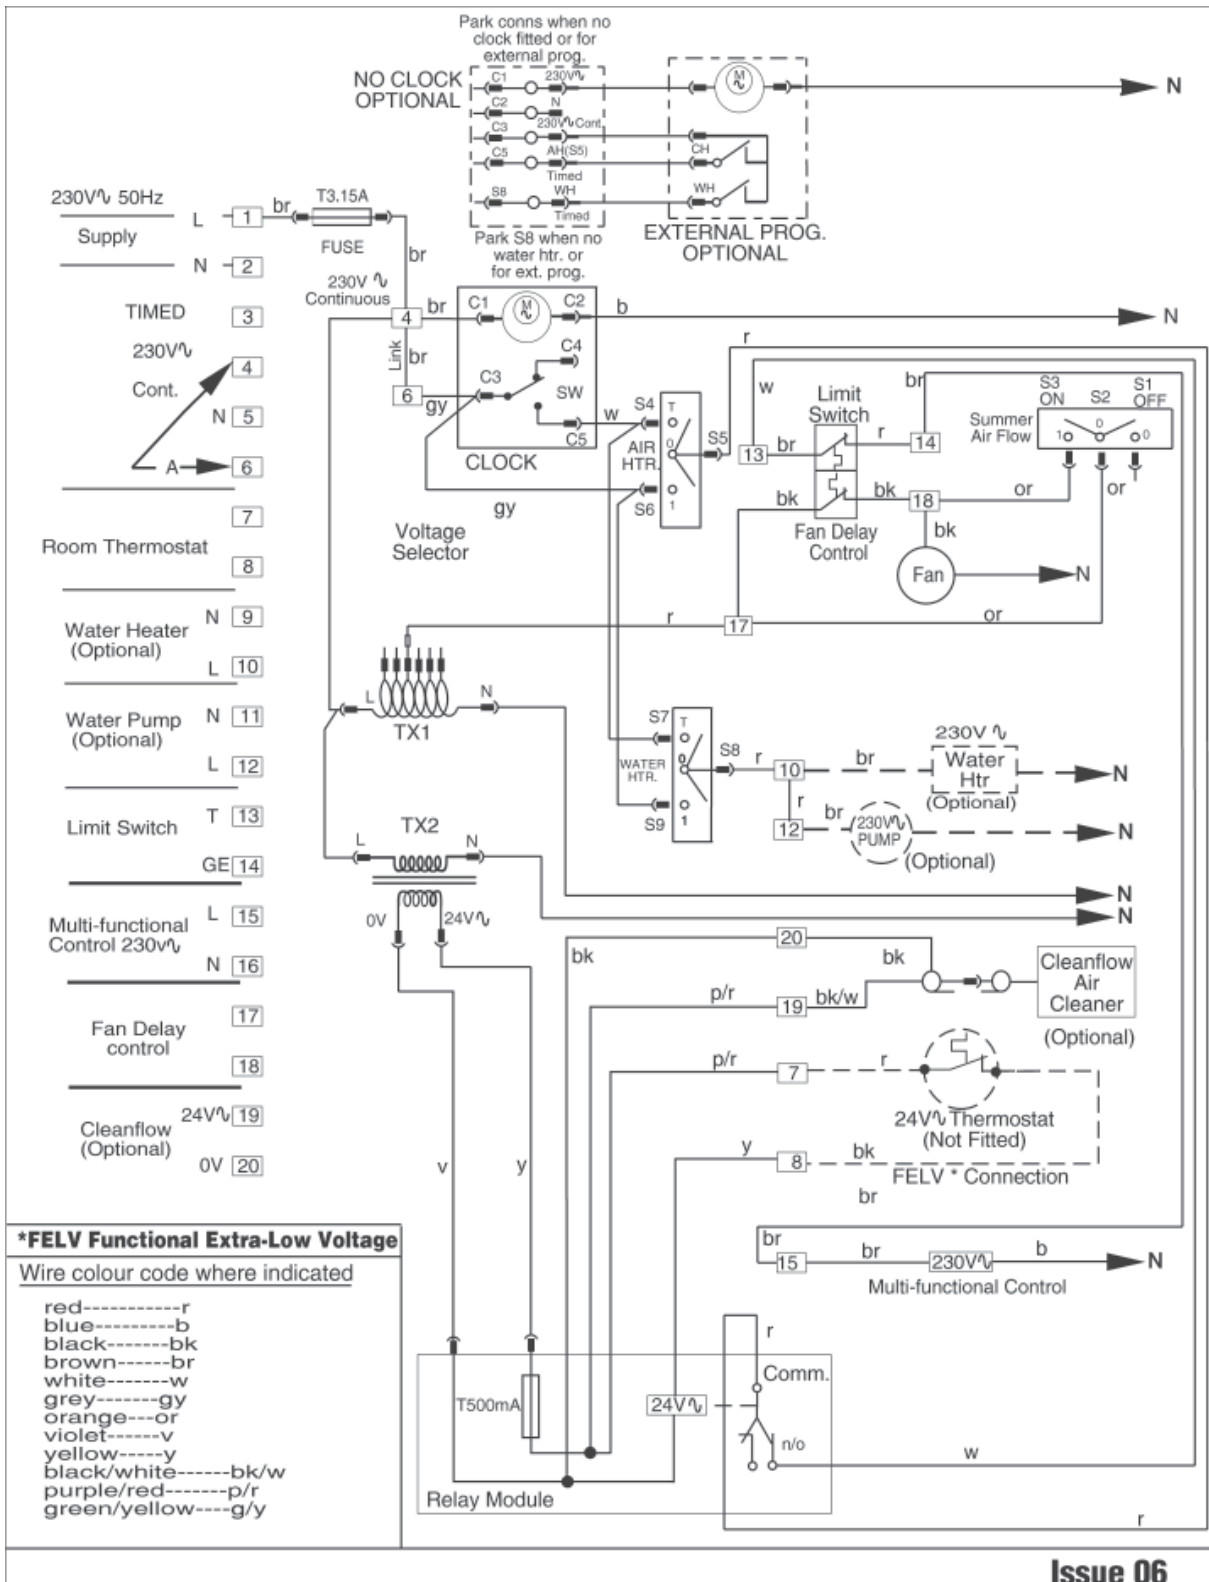

**Fig. 5
9.3 The SYSTEM E-T module is fitted with a diagnostic light emitting diode (LED) which is visible through a hole in the module cover, as shown in Fig. 5 below. If the LED is flashing, this means that :